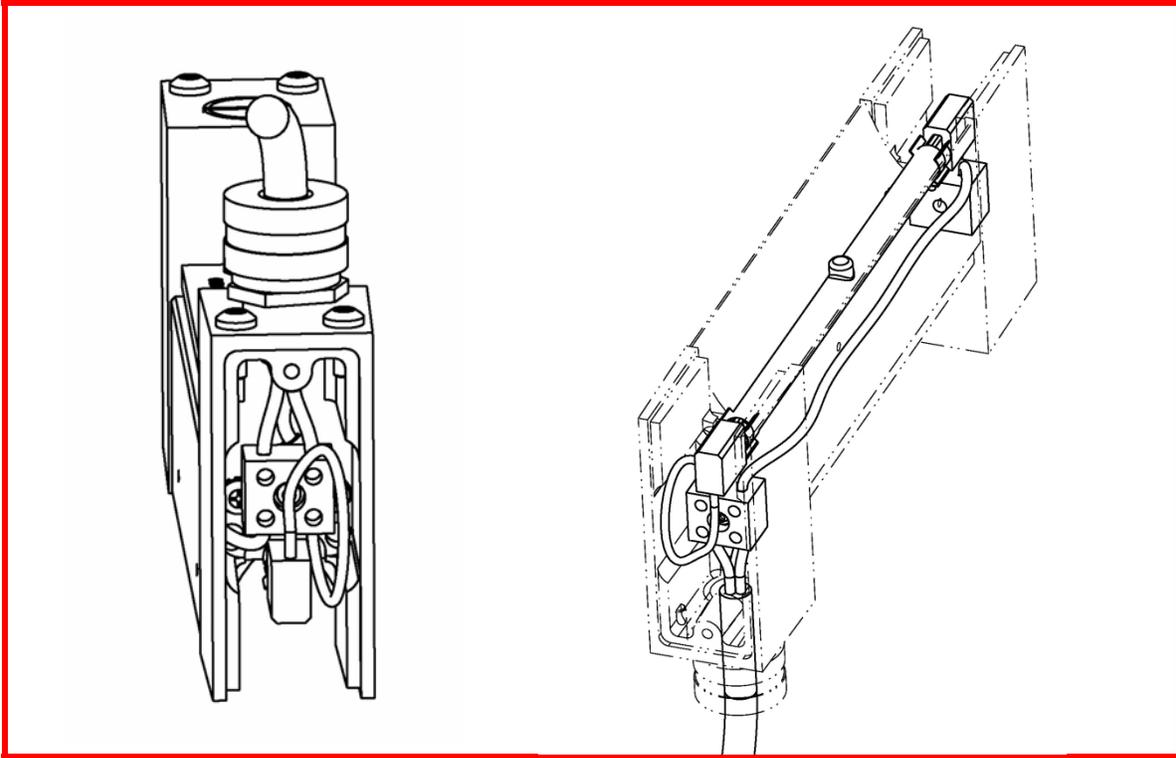

Figure 6-3. Model 5306 Lamp Removal.
4. Loosen (do not remove) the setscrews in the ceramic terminal block on each end of the heater (see Figure 6-3).